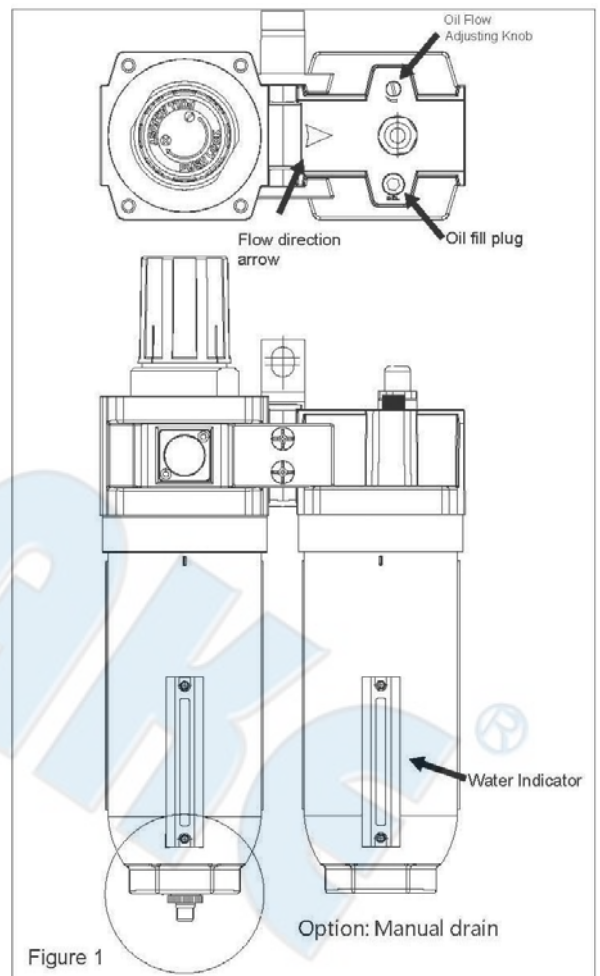

Figure 1
3. The oil flow is controlled by the narrow cylindrical adjustment screw (see Figure 1). Turn counterclockwise for more or clockwise for less oil delivery rate automatically adjust with changes in air flow.
4. The lubricator can be filled while the system is under pressure. Slowly remove the oil fill plug (see Figure 1) to allow relief of air pressure. After the oil fill plug has been removed. Pour oil into the lubricator and then replace it. Replace the oil fill plug before resuming operation. Alternatively, the bowl can be removed once the oil fill plug is removed. If the bowl is removed to replace the oil, be certain the bowl is back in place and bowl ring tight before replacing the oil fill plug.